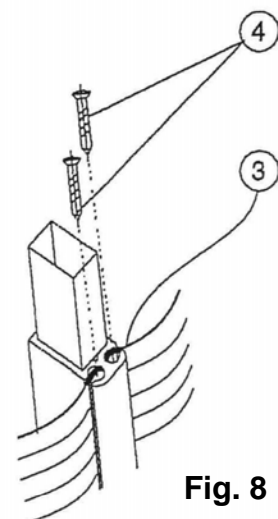

Fig. 8
- (Fig. 8) Adjust the welt section flush with the end of the groove (3) and screw the welt screw (4) into the centre of the welt.